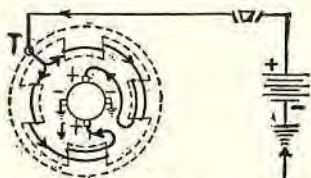

Fig. 3. Starting motor of the four-pole type, with the field-coils connected in "series parallel."
See Fig. 3: The battery supplies the current, therefore start with the battery (+) terminal, thence to starting switch, to terminal (T) on the motor, to the field-circuit. In this instance the field-coils or windings on the four field-poles are connected in "series parallel." The current divides when passing into the field-coils, and flows through the two field-coils on each side, then to the (+) main brushes, through the armature, through the grounded (-) main brushes, to the grounded (-) terminal of the battery, thus completing the circuit.